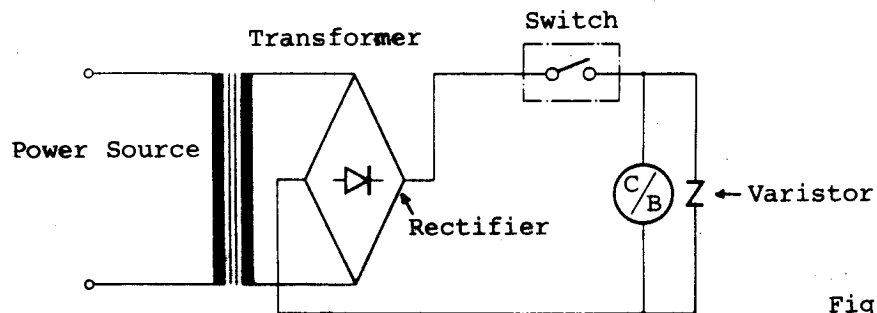

Fig. 4
- (1) This electromagnetic clutch & brake should be used on DC24V. Voltage fluctuations should be kept within 10%.
- (2) For ON-OFF operations, the installation of the switch on the DC side will result in a quicker response time for release than if the switch is placed on the AC side. (Fig. 4)
- (3) The protective varistors for surge suppression, provided among the accessories, should be connected in parallel to all clutch & brakes. This element is without polarity. (Fig. 4)